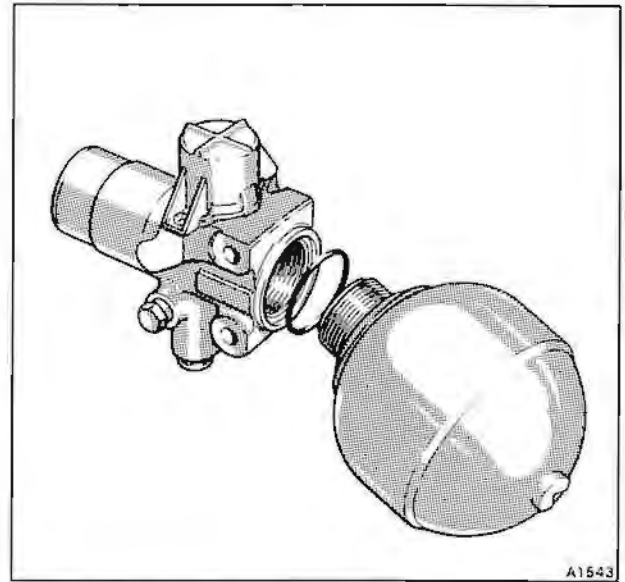

Fig. G9-3 Hydraulic accumulator with sphere removed
2. Carefully hold the valve body of the accumulator. Then, using a suitable chain wrench located around the circumference of the sphere, unscrew and remove the sphere from the valve housing. Discard the sealing ring (see fig. G9-3).
2. Carefully hold the valve housing in a vice. Using a suitable strap spanner located around the circumference of the sphere, unscrew and remove the sphere from the valve housing. Discard the sealing ring (see fig. G9-3).
3. Remove the setscrew securing the connection valve retaining plate (see item 3). Remove the plate and valve ball.
4. Remove the bleed screw and ball (see item 1). Remove and discard the 'O' ring from the bleed screw.
5. Position the valve housing onto a press and depress the spring retaining plug (see item 2) sufficiently to allow the snap ring to be removed.
7. Remove the connection valve (see item 3). The valve can only be removed from the sphere end of the housing.
8. Position the housing onto a press with the cut-out spring housing (see item 4) located under the spindle. Apply sufficient pressure to retain the housing when the retaining screws are removed.